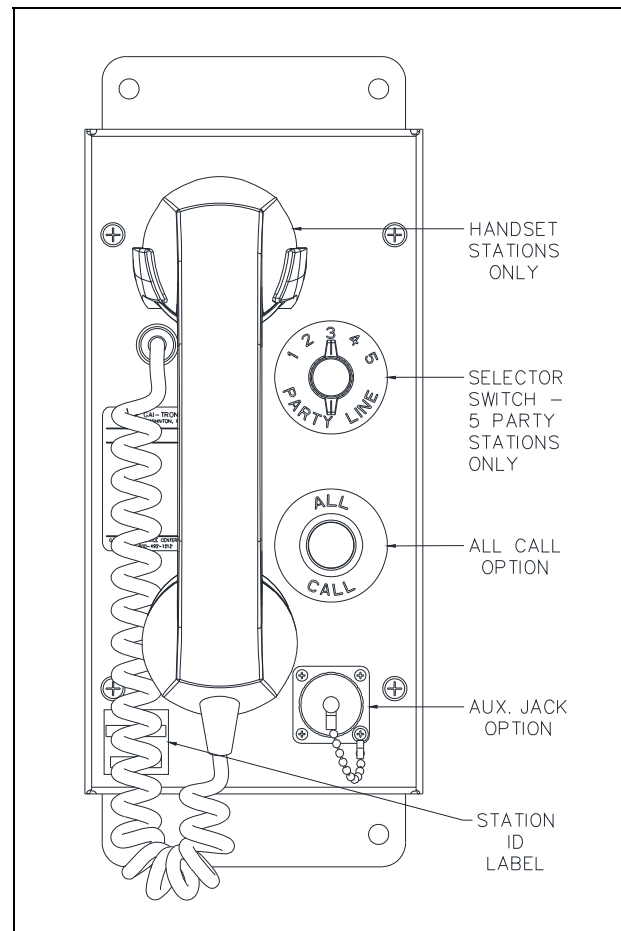
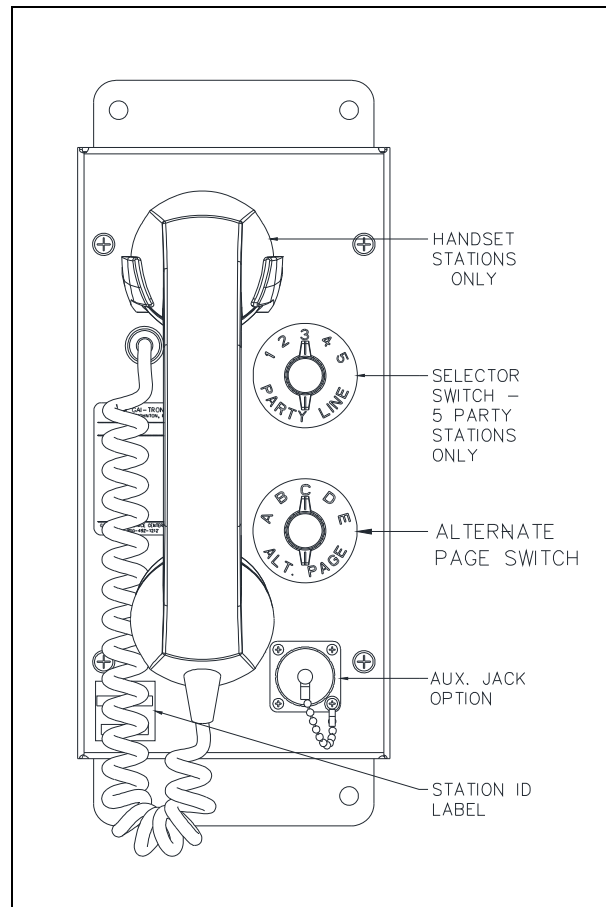

Figure 14. All-Call Button Location
Figure 15. Alternate-Page Switch Location
Use the ALL-CALL button to page an alternate destination that is programmed for the station (see Figure 14). The ALL-CALL option must be software configured for the SP2 station. To initiate a page using the ALL-CALL feature:
Use the ALT-PAGE selector switch to page one of five alternate destinations programmed for the station (see Figure 15). Alternate page destinations must be software configured for SP2 stations. To initiate a page using the ALT-PAGE selector switch:
1. Attach the headset assembly to the auxiliary jack on the station (see Figure 14 or Figure 15).